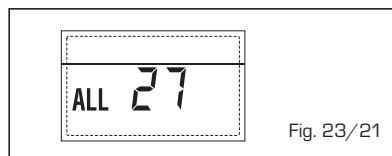

Fig. 23/21
- ANOMALÍA COHERENCIA ENTRADA (S3) SÓLO POR SISTEMA 7 "ALL 28" (fig. 23/22)